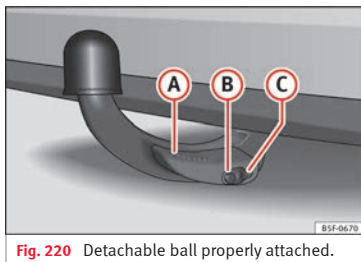

Fig. 220 Detachable ball properly attached.
- Lever ① » Fig. 220 is fully raised.
- The release bolt ② » Fig. 220 is sticking fully out (the red and green part is visible).
- Cover ③ » Fig. 220 is placed over the lock.